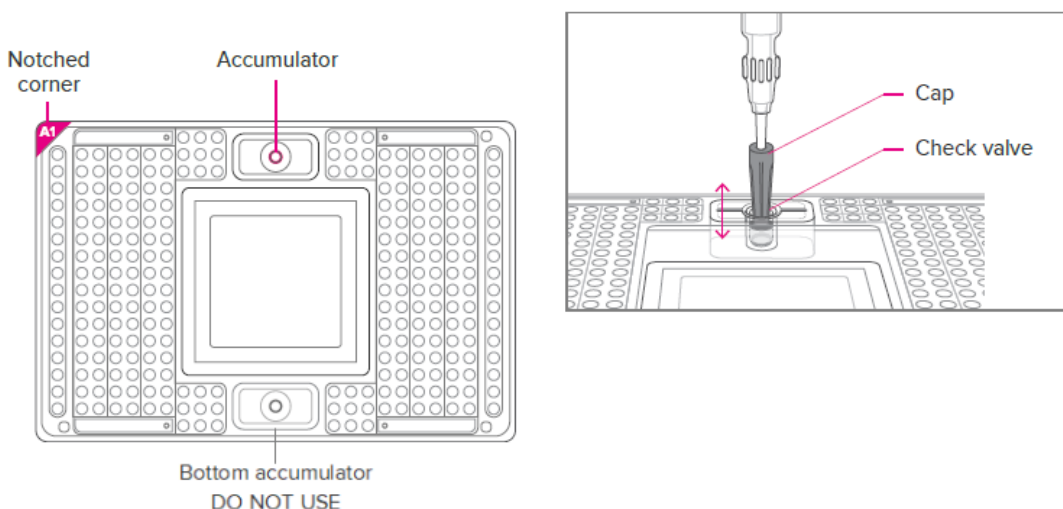

Figure 4. Actuating the check valve in the top accumulator on the 192.24 IFC
- b Then, use the syringe with the shipping cap in place to actuate the check valve in the top accumulator (closest to the notched A1 corner of the IFC) with gentle pressure. Ensure that the poppet can move freely up and down (Figure 4).